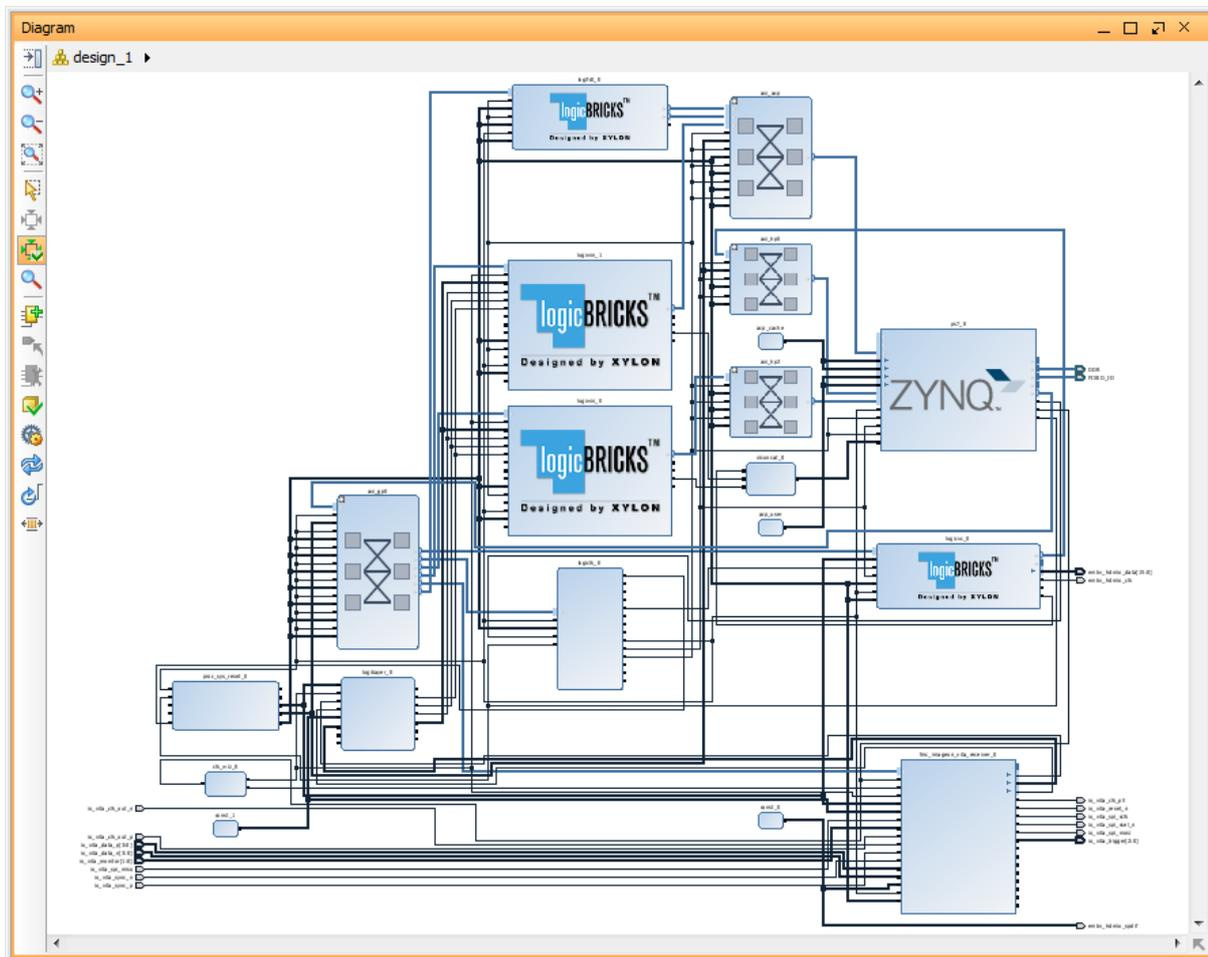

Figure 27: Vivado Block Design Diagram – logiREF-FACE-TRACK-EVK Project
The `logiFDT_EVK.xpr` file from your installation directory is the Vivado Design Suite project file that opens the project. Open this file with the Vivado and explore the design – Figure 27.
- Select the MicroZed configuration mode by setting up JP1-JP3 jumpers as shown on Figure 27. The presented setup selects the SD card as the boot device.